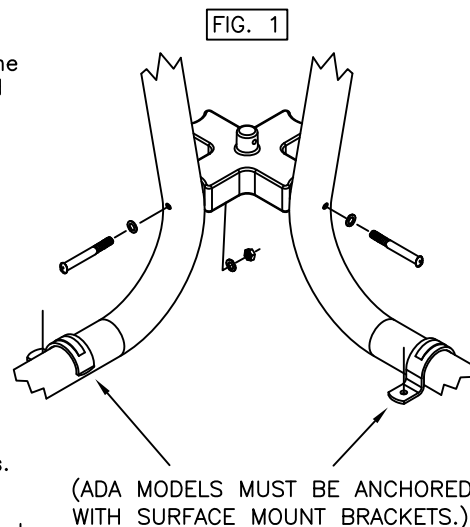

FIG. 1
Attach two opposing ends of the (C2) attached cross to two (C1) legs, see FIG. 1. Use one, per each leg, (G), (F), (H) using two (D) per each (G). Attach the remaining two (C1) legs to the attached cross as per previous step. Tighten the fasteners with a regular tip screwdriver. **NOTE:** On three seat unit, use one (C3) leg in place of a (C1) leg.
When using the surface mount brackets, on ADA models only, the 17115 glides are not used. Also, the surface mount bracket anchor bolts are NOT included. See Fig. 1.